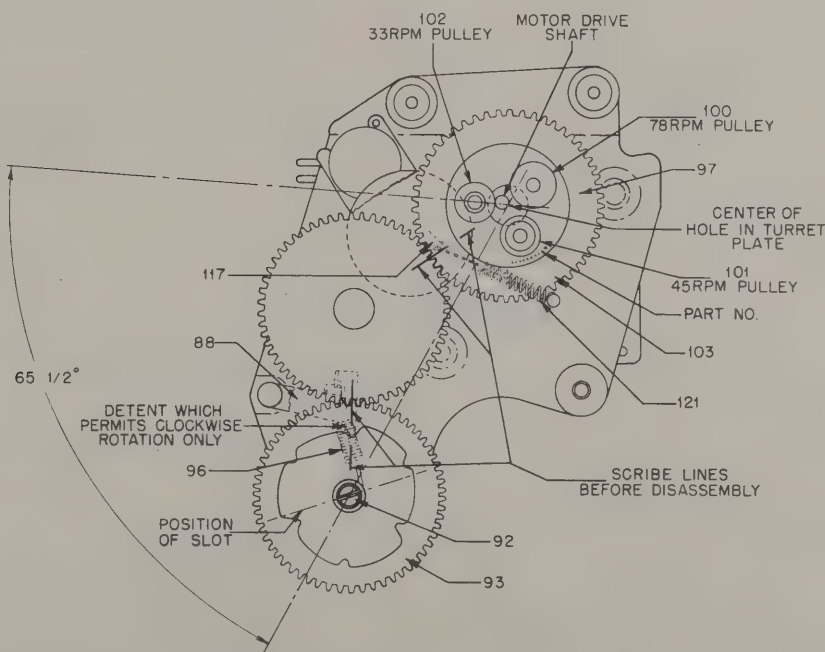

FIGURE 14. MOTOR GEAR TRAIN ASSEMBLY
**CAUTION:** Do not disassemble the speed changing mechanism without first marking the positions of turret assembly, the speed change gears, and the speed change cam, as shown in Figure 14. But, if the turret has been removed accidentally, or if the above precaution has not been taken, the assembly procedure is as follows (refer to Figures 9 & 14).
1. Assemble the speed control pulleys (100), (101), (102) to the turret plate (97A). They are snapped over the pulley shafts, and they can be pried off with a screwdriver. Note that the 45 RPM pulley is adjacent to the part number on the turret plate, as shown in Figure 14.
2. Attach the turret plate (97) and the speed change gear (103) to the speed control bracket with the turret spring washer (104) and the two machine screws (105).
3. Place the speed change shaft assembly (92) and the speed change gear (93) on the speed control bracket. Do not tighten the collar bushing (94) to the shaft.
4. Rotate the turret assembly until the correct angle is obtained between the center of the turret plate and the speed change shaft and 33 RPM speed control pulley, as in Figure 14. Use a combination square with a protractor, or other accurate protractor, for measuring the angle.
5. Lift the speed change gear (93) from the idler gear and rotate it until the slot in the shaft is in the direction shown in Figure 14 and the speed detent pawl (88) falls into the detent in the speed change cam (92A). There are two detents, on opposite sides of the cam, into which the pawl may fall. The correct detent is the one which will permit clockwise rotation only of the speed change shaft.
6. Tighten the setscrew (95) in the collar bushing (94).
7. Attach the motor (106) to the studs on the speed control bracket with the "C" washers (113).
8. Attach the tension springs (121), (96), (115). Note that the idler wheel spring (121) hooks into a soldering lug (117) under the idler wheel.